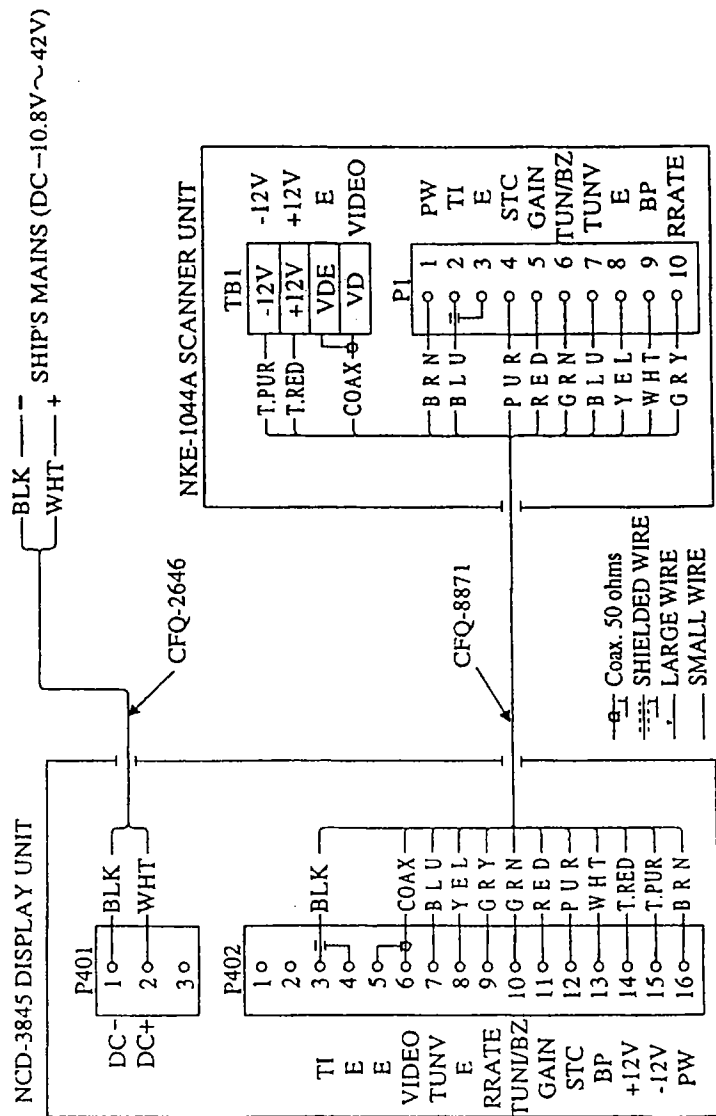

FIG. 104 INTERCONNECTION DIAGRAM
- Fig. 104 INTERCONNECTION DIAGRAM OF RADAR 2000